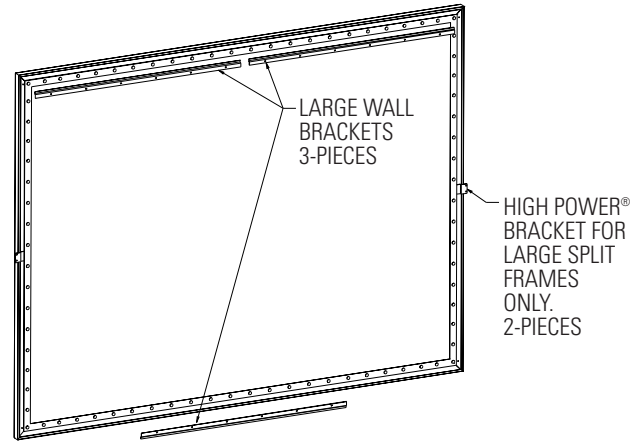

FIGURE 7
3. Some large screen sizes (240") are made with 2-piece side frame rails. For this type of frame you will need to attach one High Power® bracket to each side at the joint. Use the black #10 screws supplied. See Figure 7.